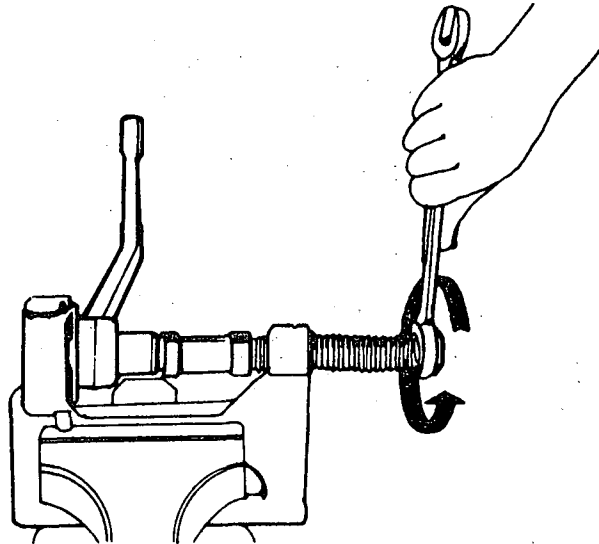

Fig. 2
- b) Install the intermediate arm bushings (fig. 2).